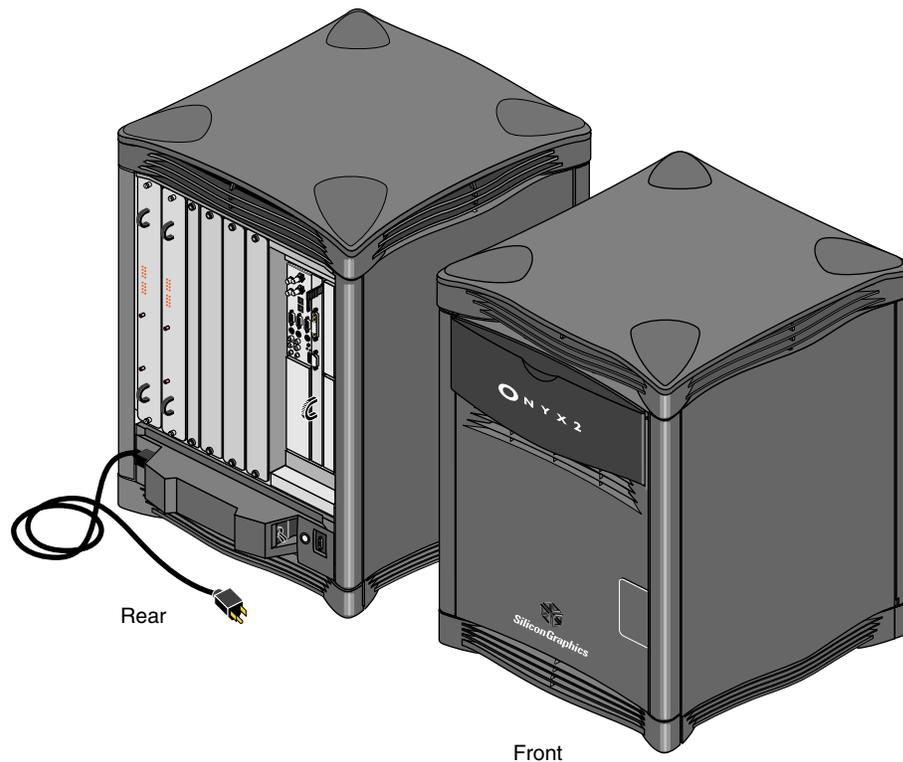
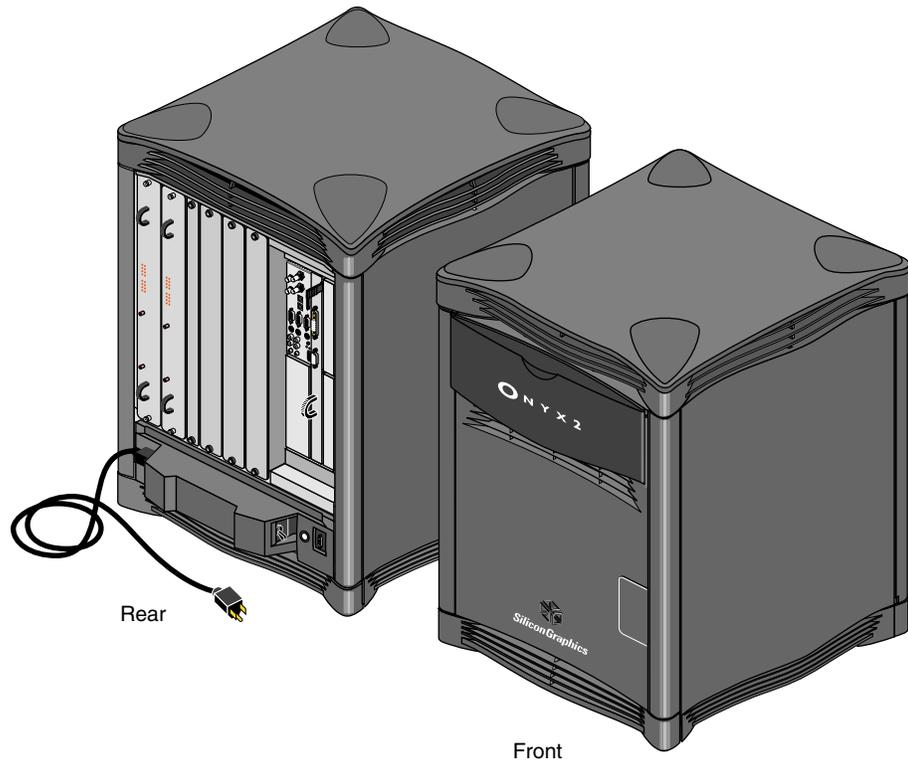

Figure 1-1 Onyx2 MXI Deskside Workstation
Figure 1-2 Onyx2Reality and InfiniteReality Deskside Workstation
- One graphics board set (pipe). The board set can be either the entry-level performance Onyx2 MXI, the mid-performance Onyx2Reality, or the high performance Onyx2 InfiniteReality (see Figure 1-1 and Figure 1-2).